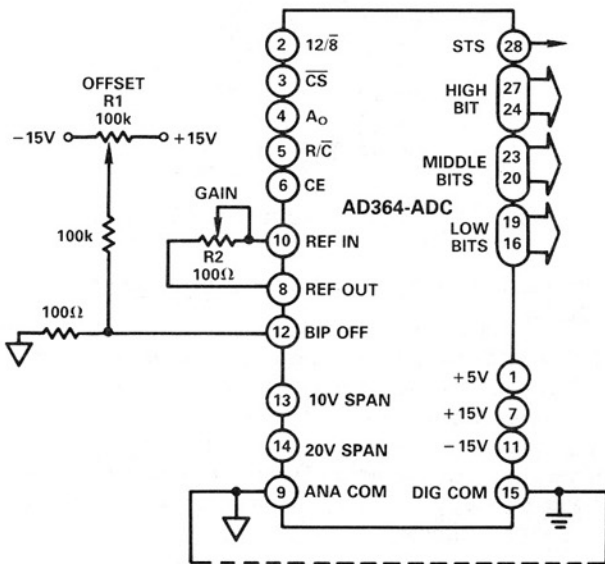

Figure 10a. Unipolar Gain & Offset
Offset Adjust, AD364-ADC: Offset adjust circuits for unipolar and bipolar operation are shown in Figures 10a and 10b. In each case the potentiometer should be a multi-turn, low temperature coefficient device, such as 20-turn cermet. Lowest offset drift in unipolar operation will be realized when the fixed resistors are low-TC (100 ppm/ $^{\circ}\text{C}$) metal-film types.
*Refer to Figure 10a for gain and offset adjustments.